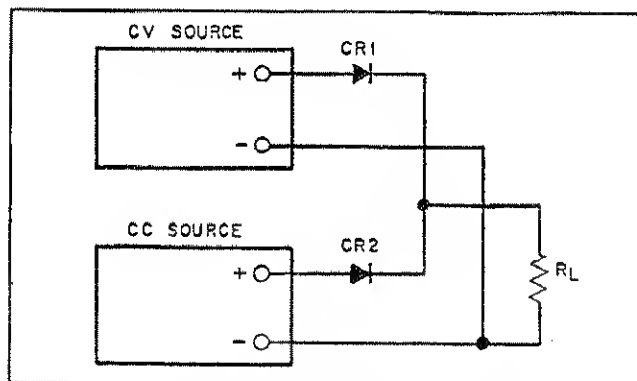

Figure 3-2 Paralleling Two Supplies
currents from each individual supply. Since the inputs to the supplies' error amplifiers are not available, the two supplies must be connected in straight parallel with one supply operating as a constant current (CC) source. To protect the supplies' input voltage amplifiers, diodes CR1 and CR2 are added between the + output terminals and the load as shown in Figure 3-2. If the diodes are not added, damage may occur when one supply is turned off with the voltage controls set for zero volts or to some low value.
- a. With both supplies turned off, connect the load and the protection diodes as shown in Figure 3-2.